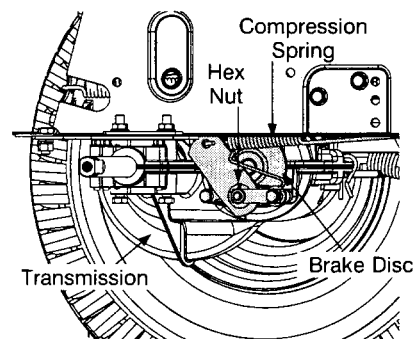

FIGURE 11
Looking at the transmission from the right side of the tractor, locate the compression spring and brake disc. See Figure 11.
- Loosen, but do NOT remove, the hex nut found on the right side of the brake assembly. See Figure 11.